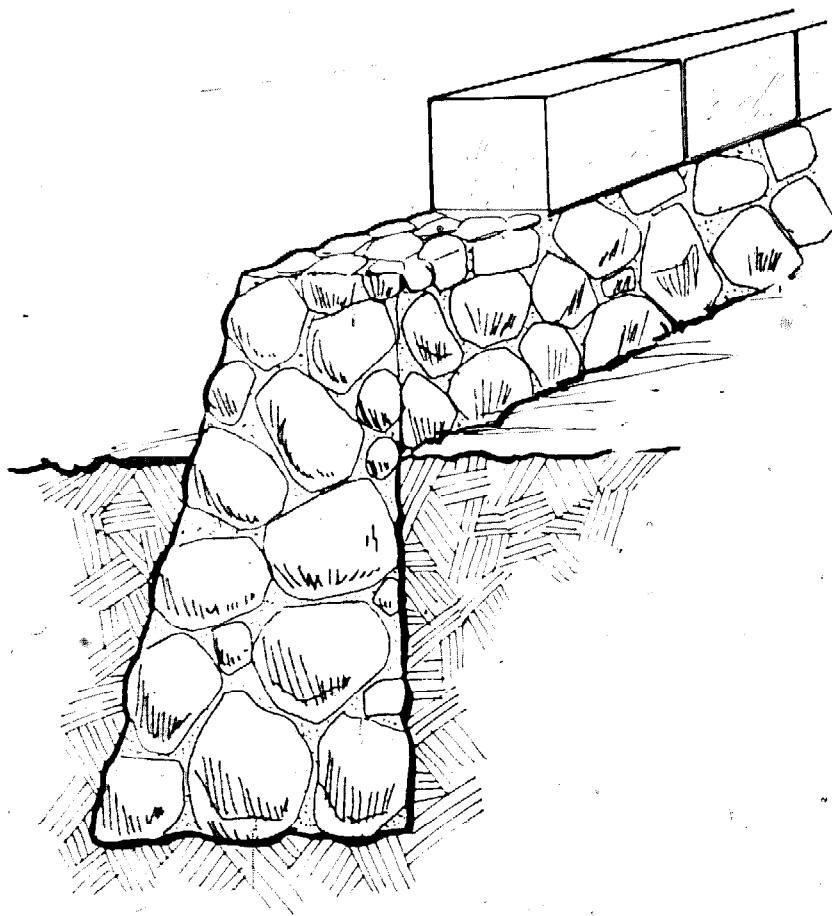

Figure 31.
**MASONRY FOOTINGS**—Bricks, concrete blocks, or rubble stone laid in mortar also make good footings. When using bricks, concrete blocks, or any *regularly* shaped materials, it is necessary that the bottom of the trench be leveled accurately; otherwise, the foundation wall may be unlevel. Either tamped sand can be used to level the bottom of the trench or a thin bed of concrete can be poured. For rubble stone footings, the trench does not have to be as level, but care must be taken to bring the height of the stones up so that the final surface—after being covered with a *thin* layer of mortar—will be level. Figure 31 shows a rubble stone footing.
*RUBBLE FOUNDATIONS*—Often, a large supply of stones, broken brick, or other suitable materials is available for building a rubble foundation. This type of foundation works well and is economical, although it is harder to reinforce. Instead of building a footing and foundation wall, the rubble foundation can be constructed as one solid piece which tapers up so that it is the width of the earth wall at the top. (See Figure 31.) The width at the bottom is determined in the same way as for footings using Table 4.